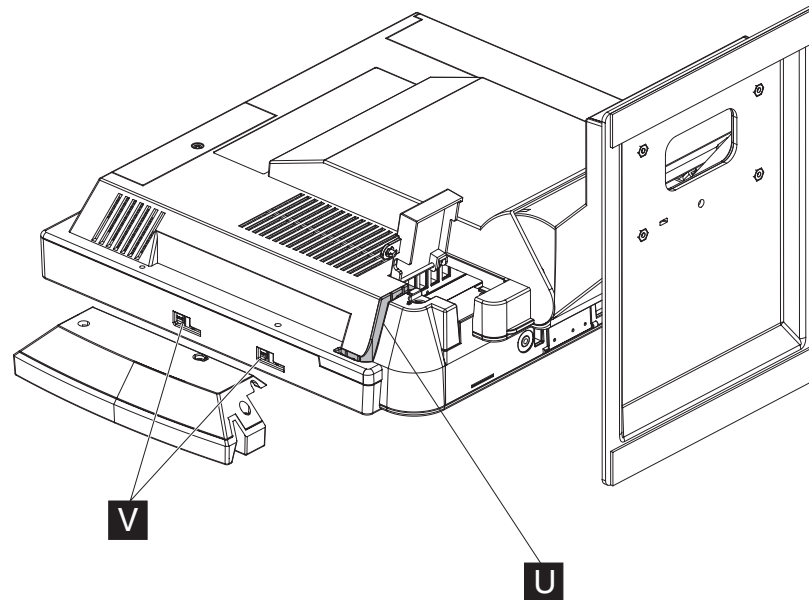

Figure 7. Installing the MSR
2. Use a small, flat-blade screw driver to pry and then lift out to remove the MSR plugs (**V** in Figure 7).
6. Plug the MSR cable to its indicated connector. See Figure 7.